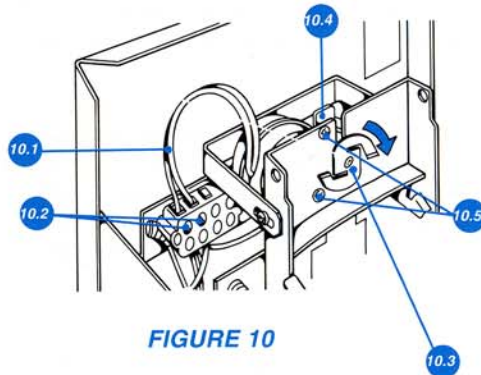

FIGURE 10
2. Remove type section from main frame (see "How to Change A Type Section"). Figure 10 shows a close-up of Camblock terminal in A 4000 Series time recorder.